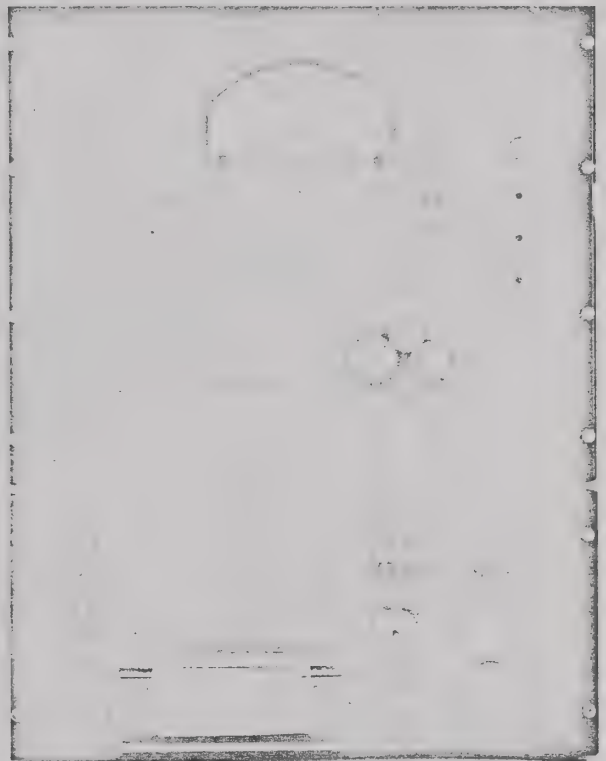

Figure 3.1. Recorder Attached to Type 1900-A Wave Analyzer.
3.4.4 OPERATION WITH TYPE 1900-A WAVE ANAL- YZER. The Type 1900-A Wave Analyzer, when used with the Type 1521-A Recorder (Figure 3.1), provides a system for the automatic recording of spectra in the frequency range of 20 to 50,000 cps. Unlike the sound analyzers, the wave analyzer offers a choice of three fixed bandwidths: 3, 10, or 50 cps. For a detailed de- scription of this analyzer and its use with the recorder, refer to the General Radio Catalog and the Operating Instructions for the Type 1900-A.